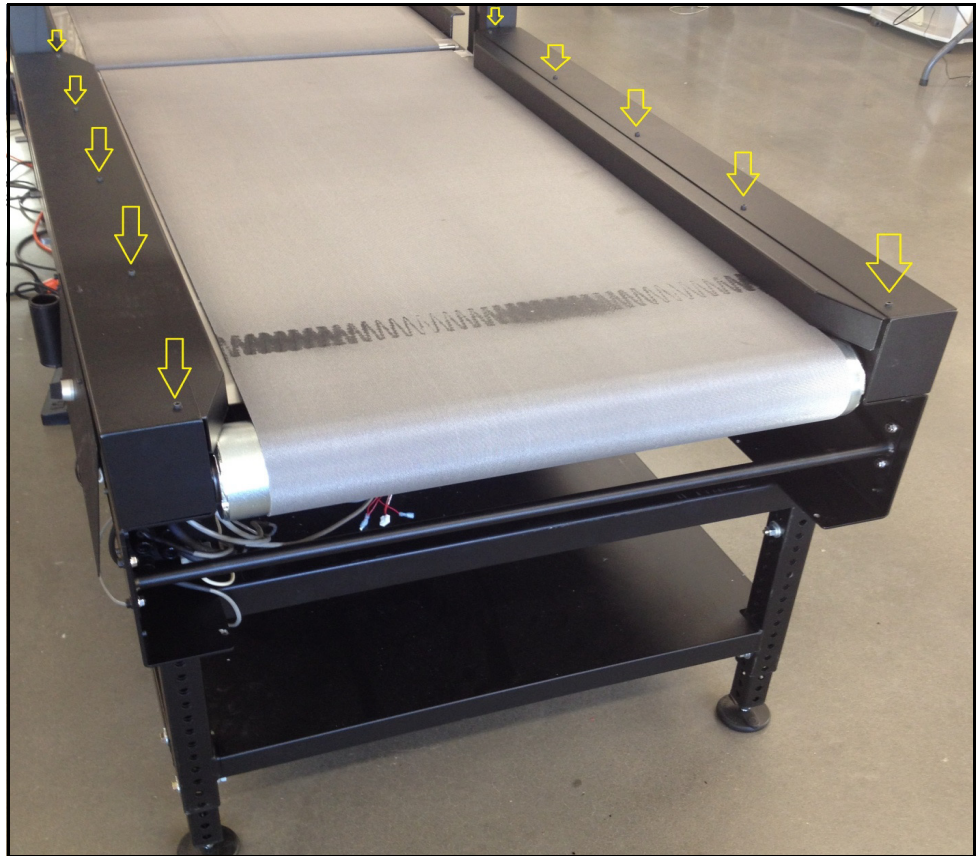

Figure 56
2. Using the 9/64" Allen wrench, remove the 10 hex head screws, shown below in Figure 56.
2. Remove the cover guards shown in Figure 56 by removing the 10 hex head screws.